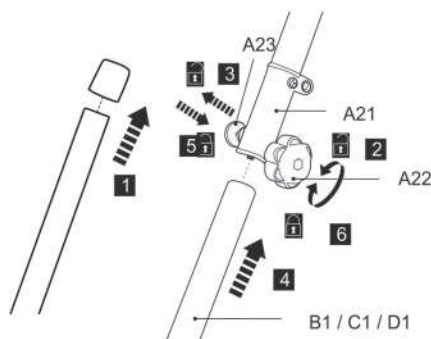

Fig. 3
2. Remove the pre-attached protection cap from the lower pole (B1 / C1 / D1) (Fig. 3, step 1).
3. Loosen the locking knob (A22), but don't fully remove (Fig. 3, step 2).
4. Align and insert the lower pole (B1 / C1 / D1) into the locking sleeve (A21), while pulling the spring bolt (A23) (Fig. 3, step 3 and 4).
5. Slightly twist the lower pole to align the hole with the spring bolt (A23). Release the spring bolt afterward to secure the lower pole in position. Ensure the spring bolt snaps in the hole (Fig. 3, step 5).
6. Tighten the locking knob (A22) to secure the connection (Fig. 3, step 6).